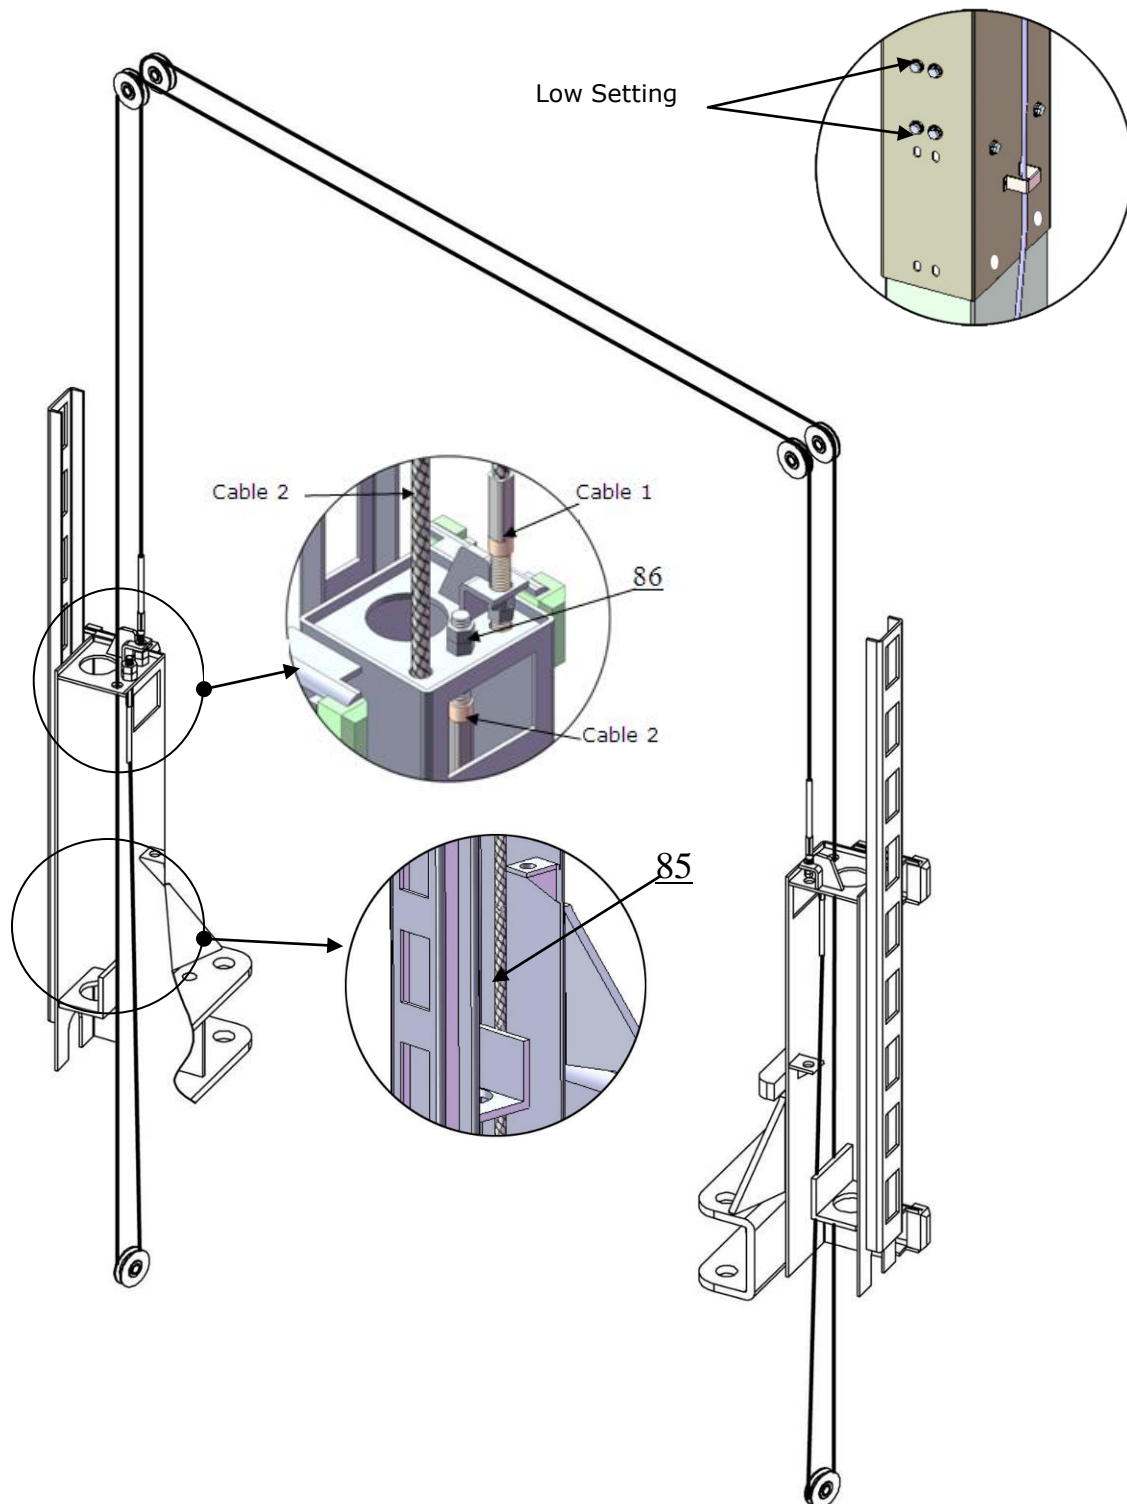

Fig. 23
a. For the low setting cable connection (**See Fig. 23**).